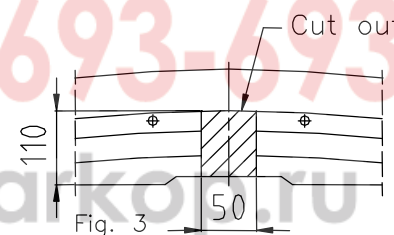

Fig. 3
3. To the left and right chassis member slip sleeve  $L=85$ mm (pos. 10), see fig.
4. To drilled holes put sleeves  $L=51,5$ mm (pos. 9).
5. To the inside of chassis members and rear part of the car put brackets (pos. 4 and 5) and fix using bolts  $M10 \times 120$ mm (pos. 12) through sleeves and bolts  $M10 \times 35$ mm (pos. 14) through nuts on the jib (pos. 8).
6. Put the main bar of the towing hitch (pos. 1) on protruding elements (bolts) of removed metal reinforcement and fix using original nuts  $M8$  (from reinforcement) and using  $M10 \times 90$ mm (pos. 13) - see fig.
7. Elements of the towing hitch (pos. 6 and 7) fix loosely to the original tow handle, and next through holes (pos. A) of ball brackets fix using bolts  $M10 \times 35$ mm (pos. 14).
8. Fix tow-ball (pos. 2) with socket plate (pos. 3) using bolts  $M12 \times 75$ mm (pos. 11).
9. Assemble a cover plate and a bumper (cut out its fragment - see fig. 3 and 4).